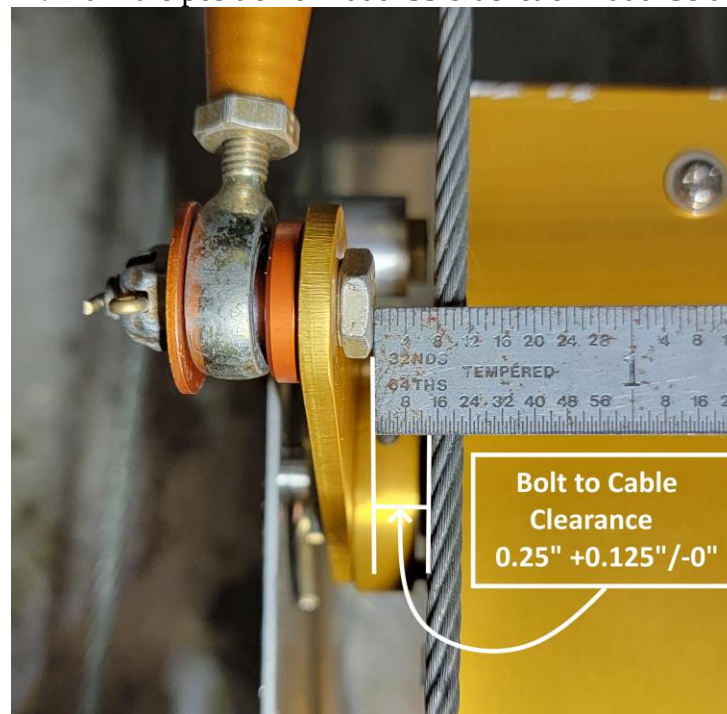

FIGURE B- 4 BOLT TO CABLE CLEARANCE
4. With just the bolt in the servo arm and the servo arm facing up 90 degrees from the baseplate, use a scale to measure the distance between the edge of the elevator cable and inboard surface of the servo arm bolt. Slide the bracket left or right to achieve the $0.25'' +0.125''/-0''$ tolerance as shown in Figure B-4. Mark the position of 1006235 bracket on 1006238 adapter.